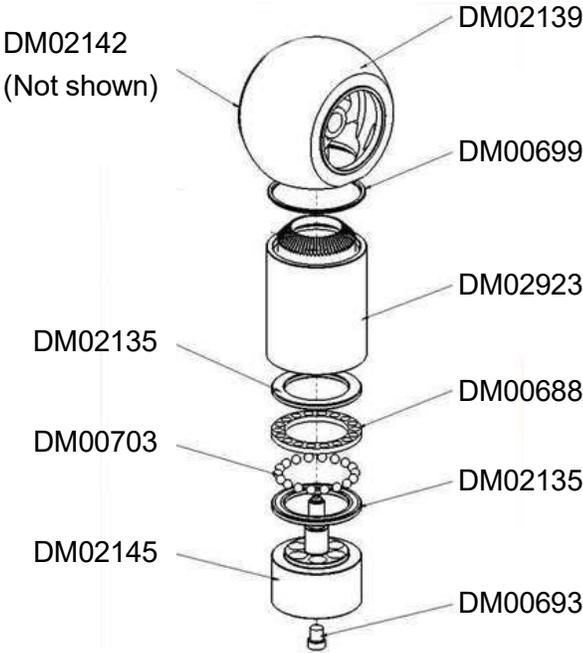

Figure 11: Main body and inlet shell
3. Lift shell and spider from ball and separate internal components to ensure all thrust bearing balls (DM00703) are retained. (Figure 11).